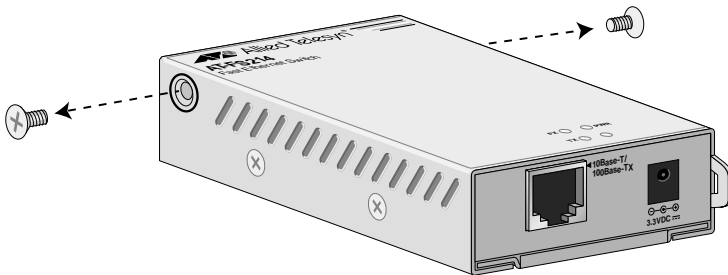

Figure 3 Removing the Mounting Bracket Screws
2. Remove the mounting bracket screws, as shown in Figure 3. These screws are marked with black circles.